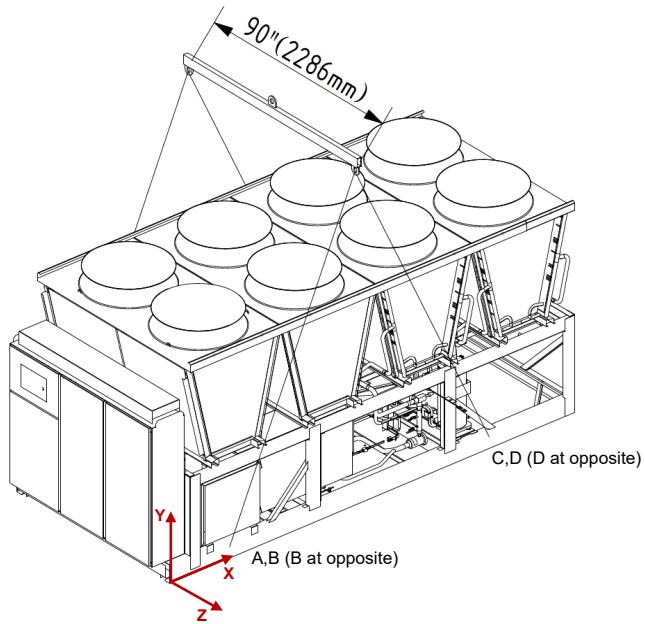
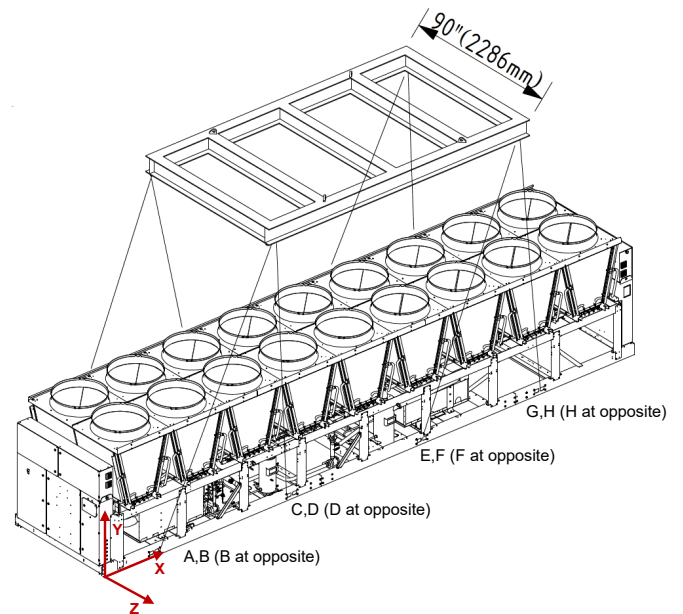
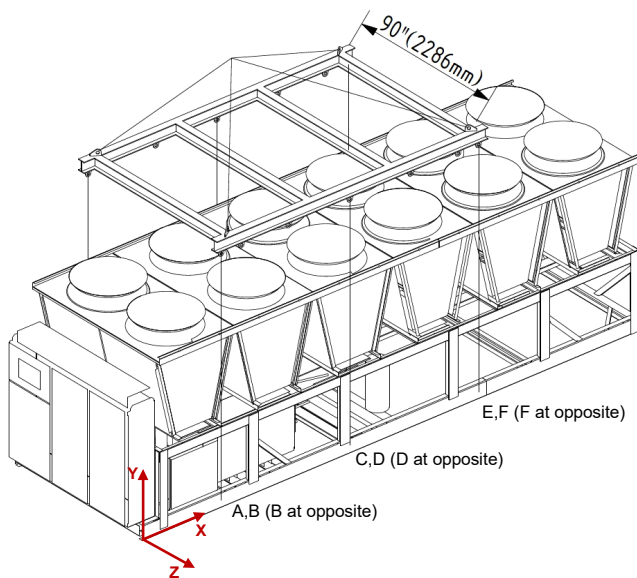

Figure 16. Unit lifting schematic (4 points)
Figure 18. Unit lifting schematic (8 points)
Figure 17. Unit lifting schematic (6 points)
1. Only lifting unit at unit marked position, Do not fork lift unit. Lifting must use the corresponding appliance, refer to Figure 16 ~ Figure 18.
2. Lifting chains/cables will not be the same length. Adjust to keep unit level while lifting. The minimum lifting Angle (Angle between the sling and the horizontal plane) is 60°. follow the Figure 16, Figure 17, Figure 18 and Table 30, Table 31.